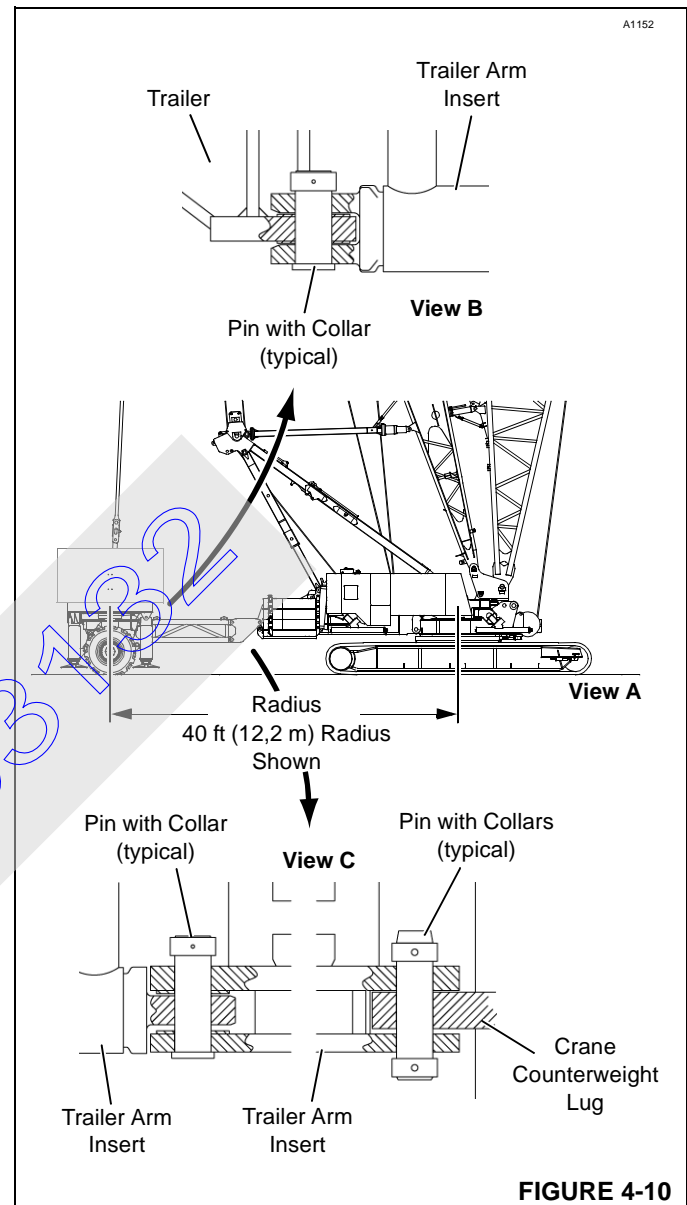

FIGURE 4-10
2. Assemble trailer arm (Figure 4-10):
3. Position rear of 2250 so it is centered in line with trailer and holes in crane counterweight are aligned with connecting holes in adapter (Figure 4-10, View C).
7. Operate jacks and tongue cylinder as required to align connecting holes in trailer arm adapter with holes in counterweight (Figure 4-10, View C).